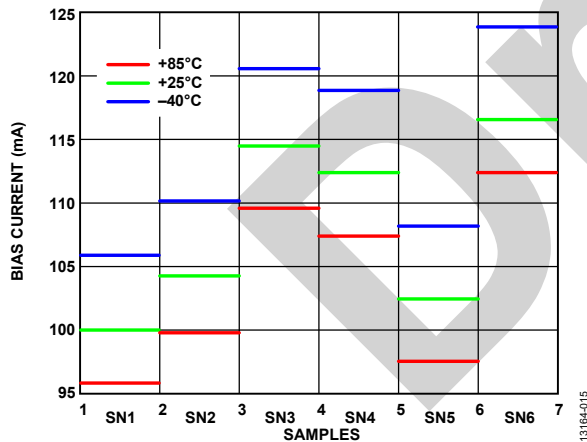
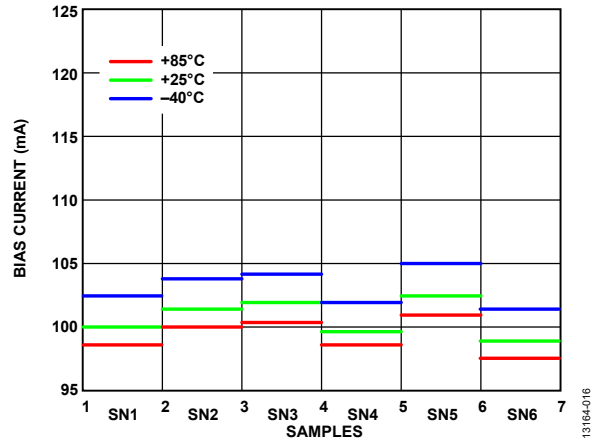

Figure 10. Typical Part-to-Part Drain Current Variation of an RF Amplifier with constant gate voltage bias (6 devices)
Figure 11. Typical Part-to-Part Drain Current Variation of an RF Amplifier with constant drain current bias control from HMC920LP5E (6 devices)
- ▶ Figure 10 and Figure 11 show typical variations in drain current when constant gate voltage and constant drain current biasing are used. The plots indicate that constant drain current biasing results in smaller part-to-part variation in drain current and lower drift of the drain current vs temperature.